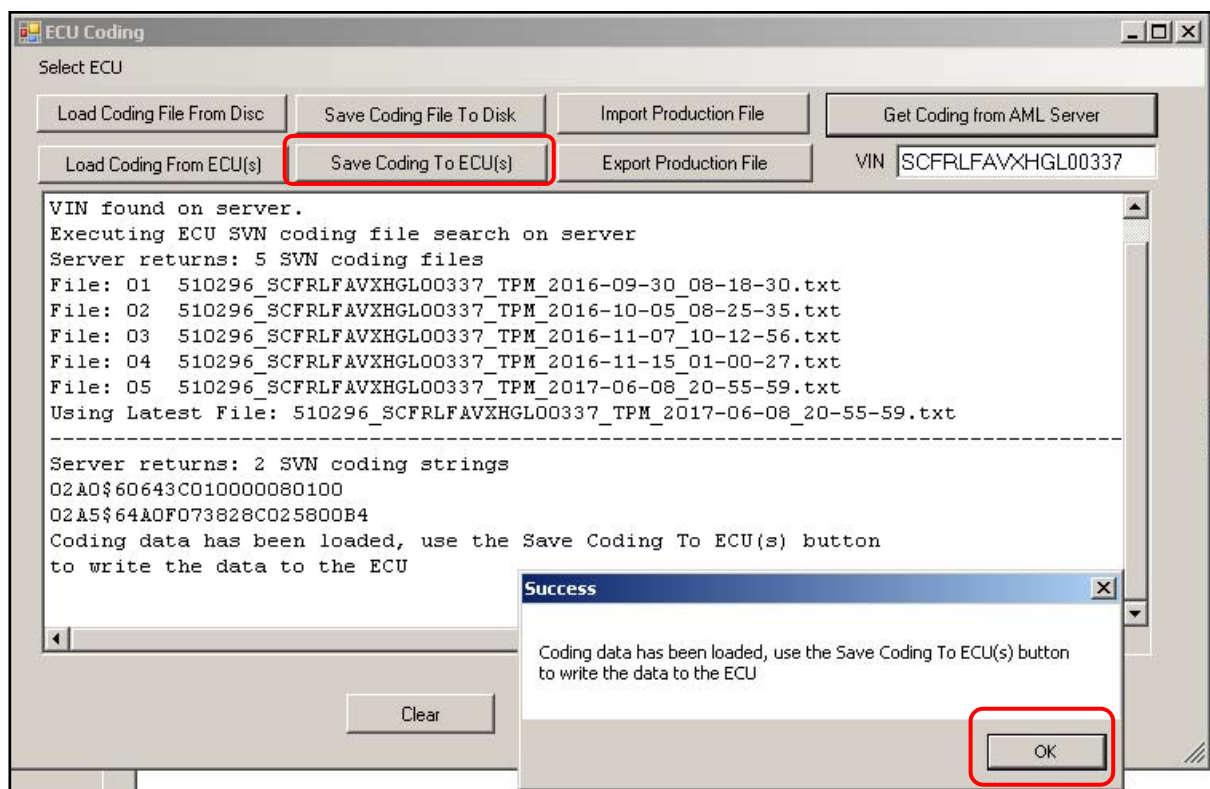

Figure 6
7. If the files are correctly downloaded, click "OK". To write the coding data to the module, click "Save Coding to ECU(s)" (refer to Figure 6)